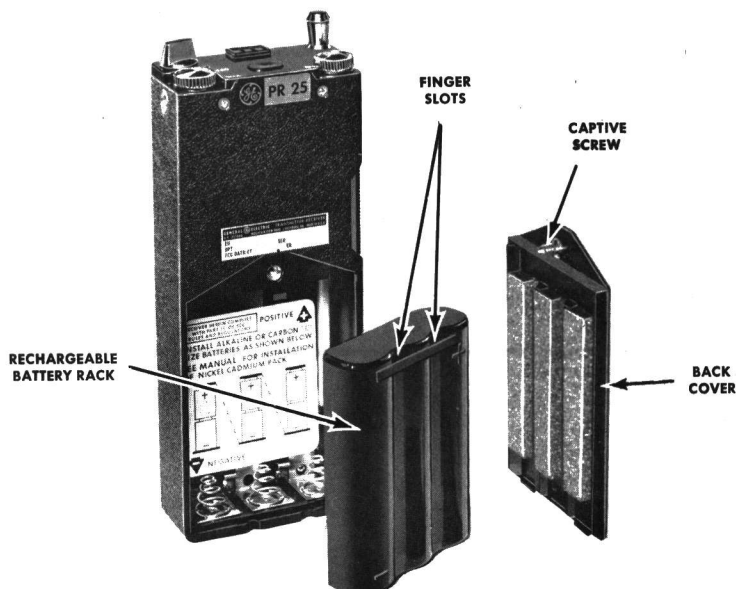

Figure 3 - Battery Pack Replacement
2. Loosen the captive screw in the back cover as shown in Figure 3 and remove the cover.
2. Loosen the captive screw in the back cover and remove the cover (see Figure 3).